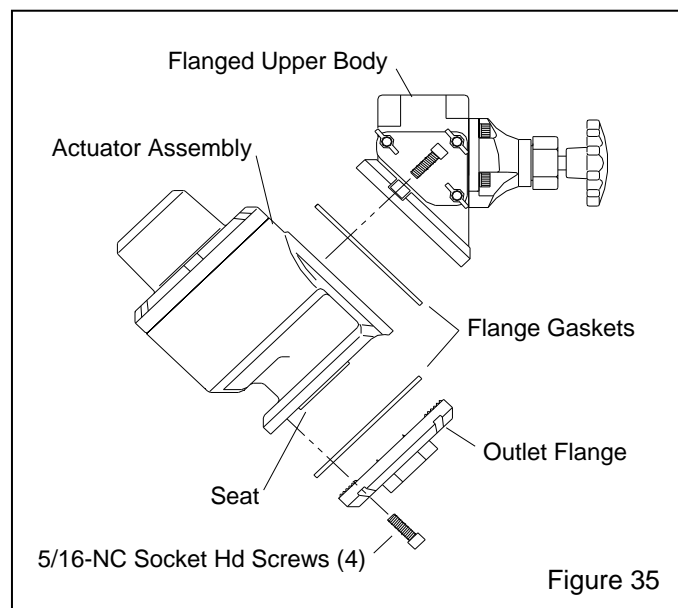

Figure 35
7.7 Auto Quantum Actuator Segment, Ref. Figures 35 and 36
7.7.3 Refer to Figure 35 and remove the screws securing the upper body and outlet flange to the valve actuator assembly, and then remove the actuator assembly.